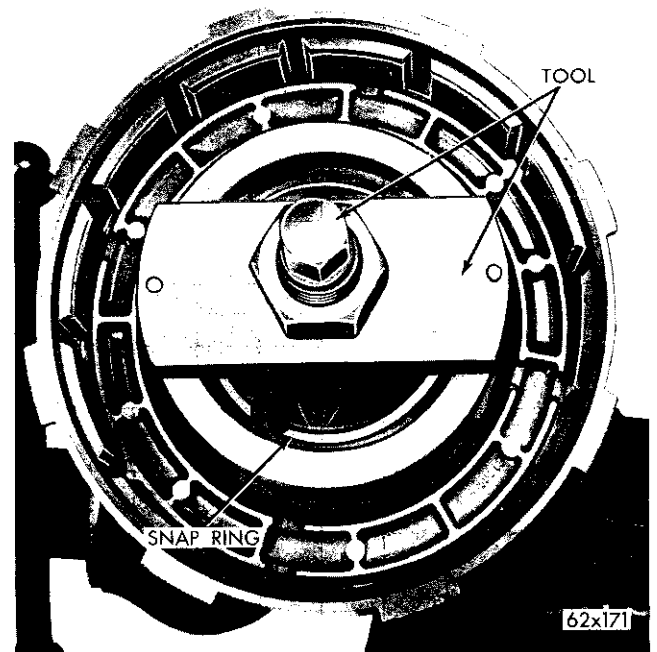
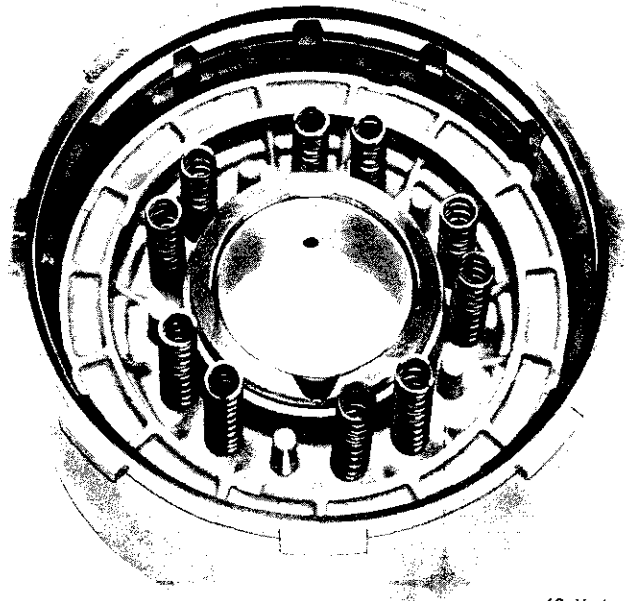

Fig. 71—Removing or Installing Front Clutch Spring Retainer Snap Ring
Fig. 73—Front Clutch Piston Return Springs—Location
(1) Using a screw driver, remove the large snap ring that secures the pressure plate in the clutch piston retainer. Lift the pressure plate and clutch plates out of the retainer.
(2) Install compressor, Tool C-3863 over the piston spring retainer (Fig. 71). Compress the springs and
(1) Lubricate and install the inner seal on hub of the clutch retainer. Make sure lip of the seal faces down and is properly seated in the groove.
(2) Install the outer seal on the clutch piston, with lip of seal toward bottom of the clutch retainer. Apply a coating of "Door Ease" to the outer edge of the seal for easier installation of the piston assembly. Place the piston assembly in retainer and carefully seat the piston in the bottom of the retainer.
(3) Place the 10 springs on the piston hub exactly as shown in Figure 73. Position the spring retainer and snap ring on the springs. Compress springs with Tool C-3863 (Fig. 71), and seat snap ring in the hub groove. Remove the compressor tool.
(4) Lubricate all clutch plates, install one steel plate followed by a lined plate until all plates are installed. Install the pressure plate and snap ring. Make sure the snap ring is properly seated.